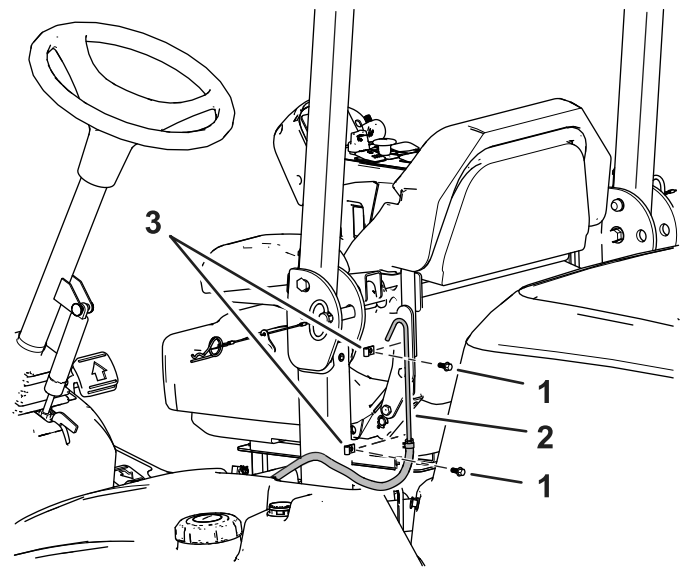

Figure 6
9. Remove the R-clamps from the roll bar securing the vent tubes (**Figure 6**).
11. Install the R-clamps back into the roll bar without the vent tubes (**Figure 6**).